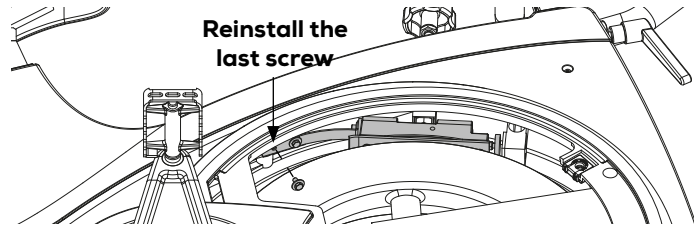

Figure 23
- 5) Fasten the remaining screw furthest away from the block, and then make sure that both screws are tightened properly, see figure 23.